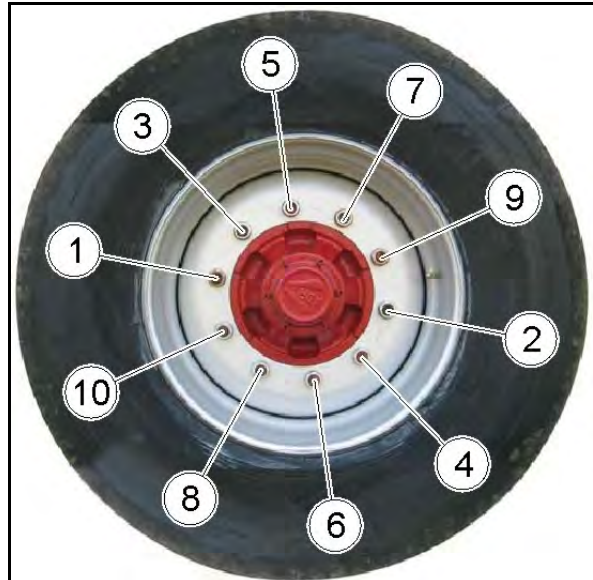

Fig. 145
2. Keep to the order illustrated in Fig. 145 when loosening and tightening the wheel nuts.